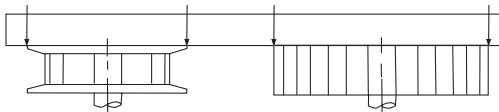

Fig. 3
- Make sure all drive components are aligned properly (see Fig. 3).